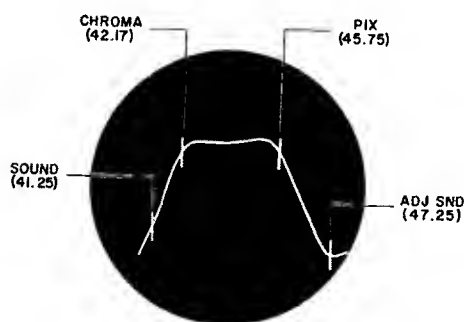

Figure 6.7 (Repeated) Tuner Link Response Curve with Markers Added
- 8.3.7 Adjust the mixer output tuning adjustment together with the i-f input adjustment of the tuner link to obtain the required bandwidth for the tuner link response. As previously mentioned the adjustment at the mixer affects the response at the high frequency end (45.75 MHz) of the curve and the adjustment at the i-f end of the link affects the low frequency (42.17 MHz) response. A typical tuner link response curve is shown in Figure 6.7 (repeated). As indicated, the significant marker positions are the pix (45.75 MHz) and the chroma center frequency (42.17 MHz). An aid in obtaining the required response is to insert a hex tuning tool into each adjustment (tuner output and i-f input) and alternately adjust these coils while observing the response on the oscilloscope.